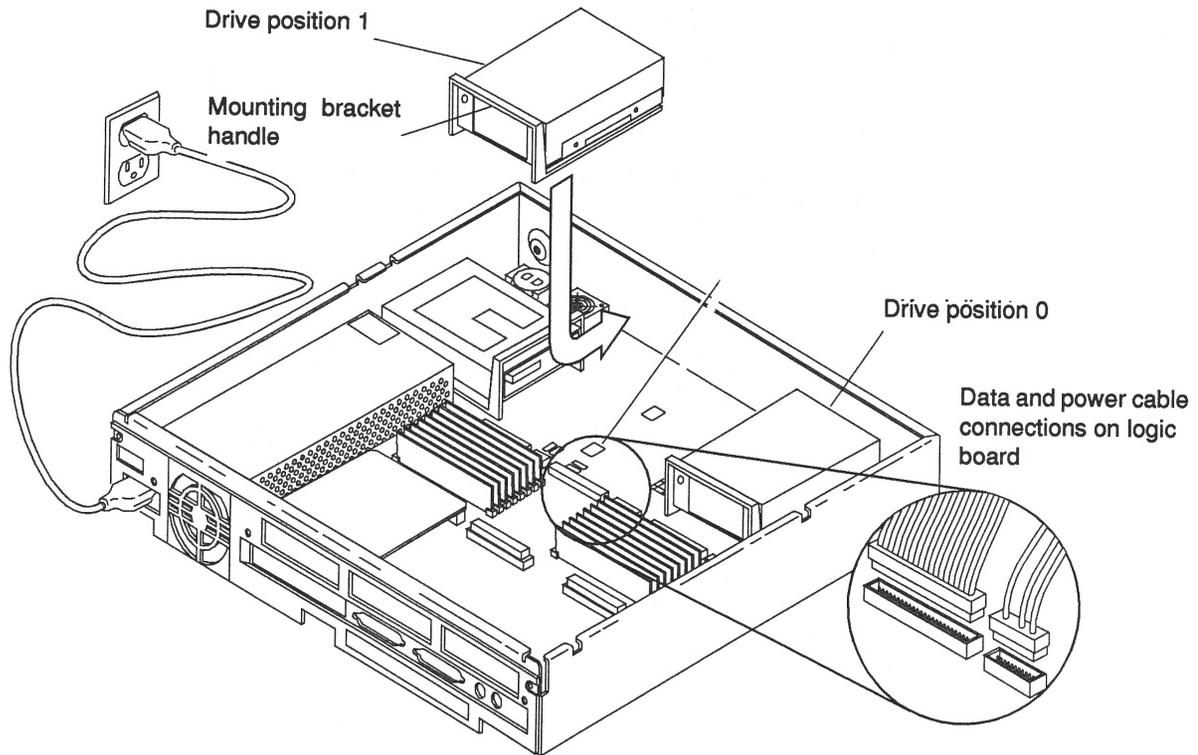

Figure 2-10 Installing a Drive in a SPARCstation 2 System
5. Lower the drive into the chassis. Refer to Figure 2-10.
Refer to Figures 2-10 and 2-11.